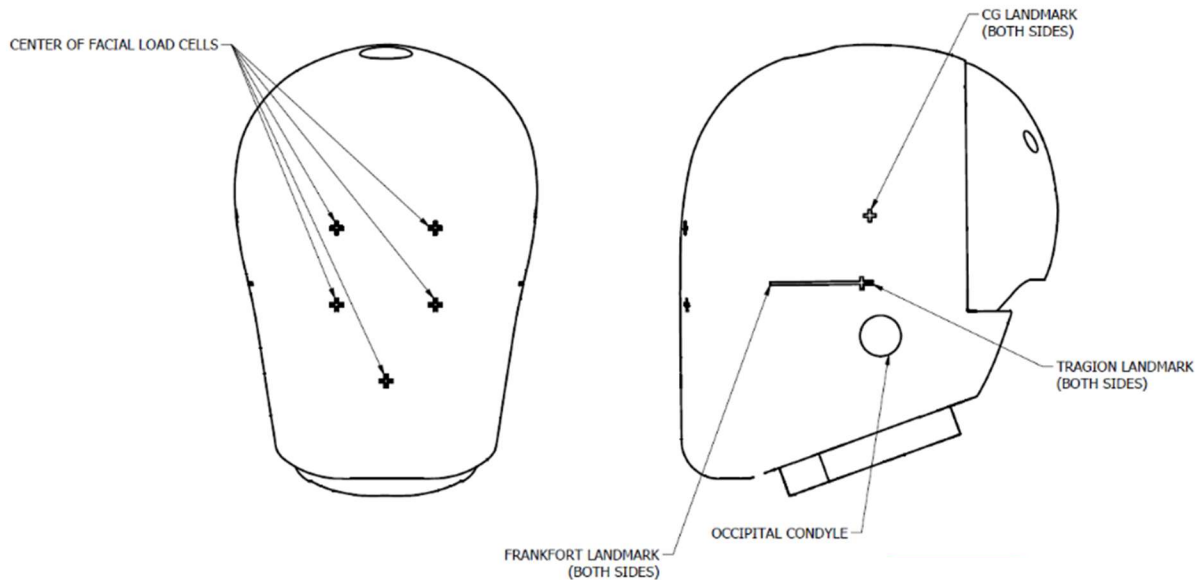

Figure 3-35. Landmarks on the head skin
- 3.3.16 The head skin has a number of landmarks marked on the skin (Figure 3-35). The CG location on the molded head skin (474-1008) corresponds to the CG of the head and the head CG instrumentation. The centers of the facial load cells are indicated by crosses on the anterior part of the skin. The tragon and Frankfort landmarks are also indicated on both sides of the head skin.